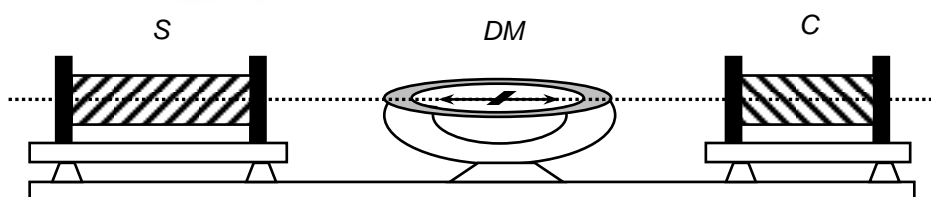

Fig. 2.7: Experimental set-up. The solenoid *S* and the compensating coil *C* are on either side of the deflection magnetometer (*DM*).
2. Refer to Fig. 2.7. It depicts the experimental set-up in which the solenoid *S* is placed horizontally on the working table with its axis perpendicular to the magnetic meridian and the compensating coil *C* is coaxial with the solenoid. Note that the compass box of the deflection magnetometer (*DM*) is kept between the solenoid *S* and the compensating coil *C*. You should also take care that the axes of the two coils are in the same horizontal plane as the needle of the compass.